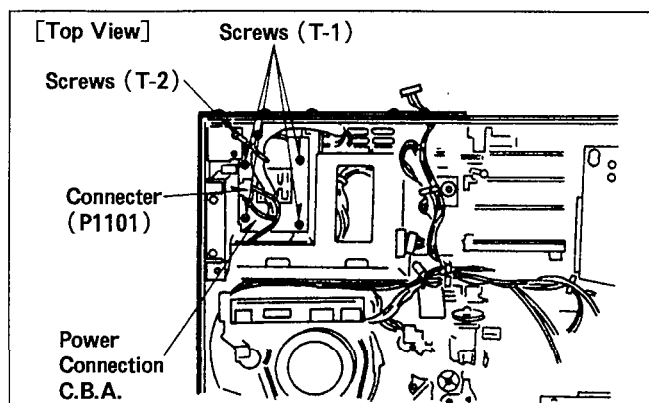

Figure D25
2. Unscrew the 4 screws (T-1) on the Power Connection C.B.A. and a screw (T-2) on the cabinet. (Figure D25)
3. Carefully lift the Power Connection C.B.A. and then disconnect a connector (P1101). (Figure D25)